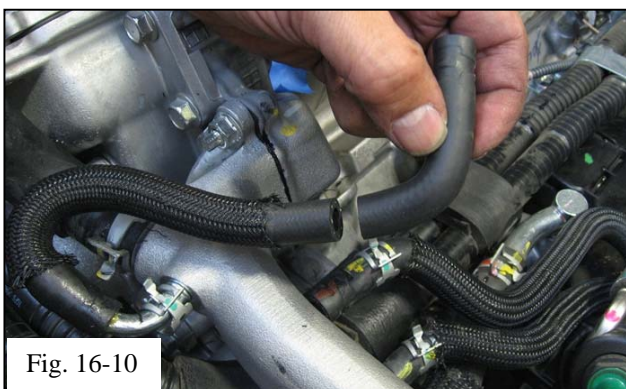

Fig. 16-10
- (n) Remove and save the OE clamp and then trim the free end of the hose (Fig. 16-10).